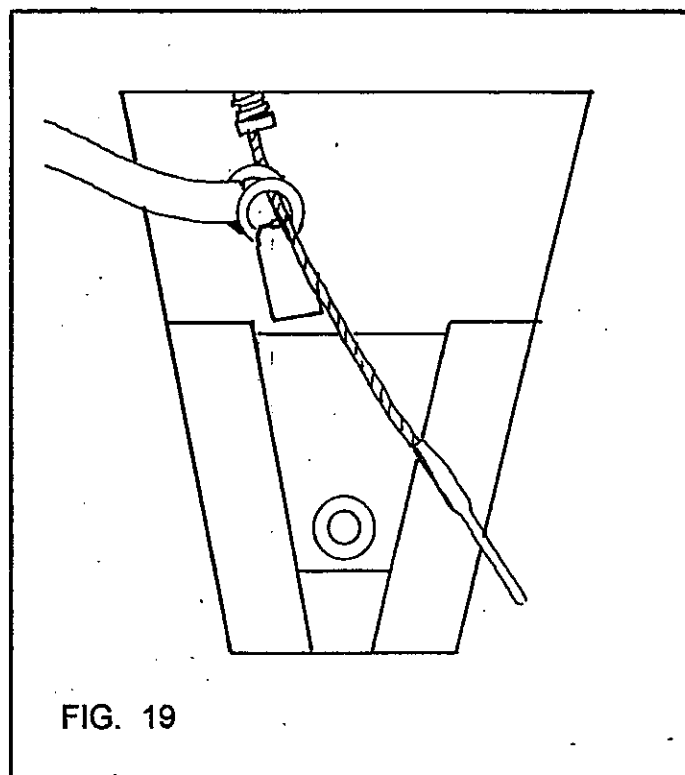
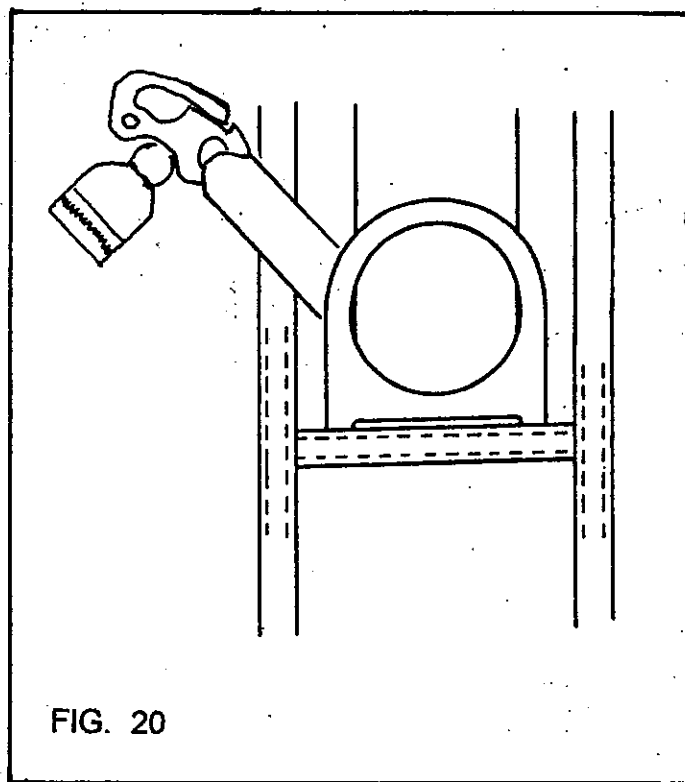

FIG. 19
FIG. 20
Immediately after exiting the end of its housing, the reserve ripcord must pass thru the small ring on the end of the reserve static line(RSL), and then thru the same type of ring mounted on the reserve top flap (see FIG. 19). The velcro on the RSL should then be mated to the velcro track provided on the rear surface of the reserve left front riser. Route the RSL over the shoulder so that the end with the bronze snap-shackle exits from under the reserve riser just behind the main support ring of the harness. (See FIG. 20.) There should be about three to four inches of the RSL remaining so that when the DOLPHIN is assembled with a main canopy, the snap-shackle can be attached to the ring on the left main riser.
18) Fold the pilot chute in thirds as shown in FIG. 19.
19) Roll the pilot chute as tightly as possible so that it resembles FIG. 20.